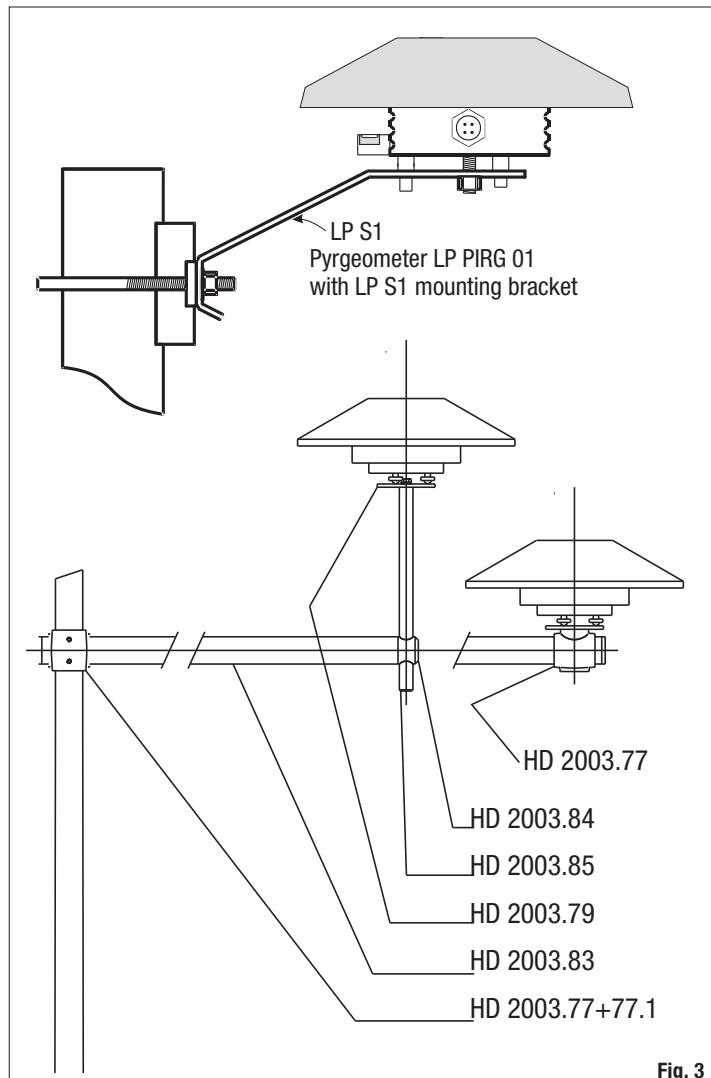

Fig. 3
- The support LP S1 (figure 3), supplied upon request as an accessory, allows an easy mounting of the pyrgeometer support pole. The maximum diameter of the pole to which the bracket can be secured is 50 mm. To secure the pyrgeometer to the bracket, remove the screen by unscrewing the three screws, fix the pyrgeometer; once the installation is complete, fix the white screen back.